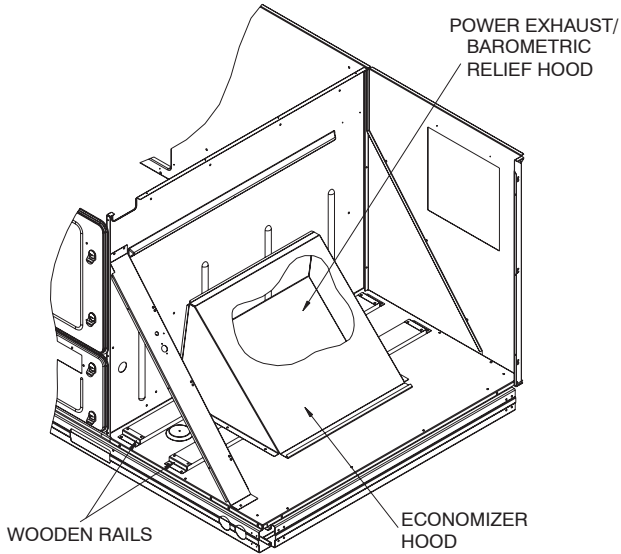

Fig. 14 - Economizer and Barometric Relief/Power Exhaust Hoods Shipping Positions
1. Economizer and barometric relief hoods are located in the condenser section under the slanted coil for shipping. (See Fig. 14.) Barometric relief/power exhaust hood is shipped inside of economizer hood. Remove screws that secure the wooden rails of the hood assemblies to the unit. Save screws. Slide complete assembly from condenser section.